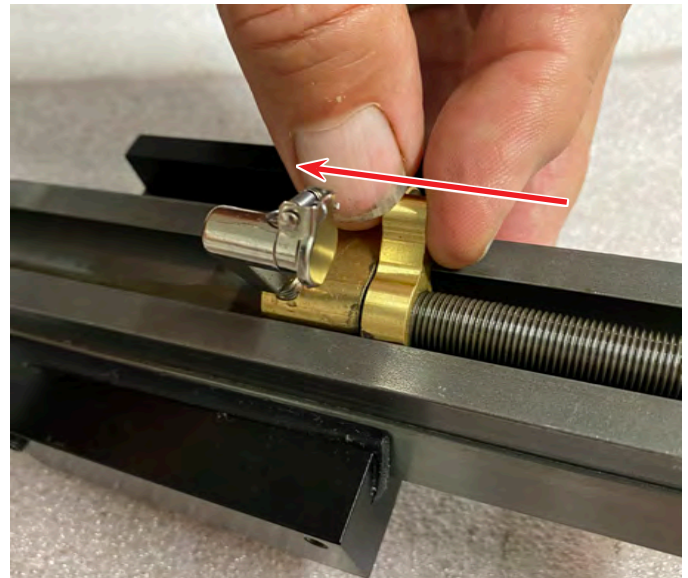

FIGURE 40
C. The leadscrew has a left-hand thread. While holding the leadscrew, so it is perpendicular to the saddle nut (very important), slowly turn the leadscrew CW while holding the saddle lock in place forcing the leadscrew into the saddle nut (see Figure 40).